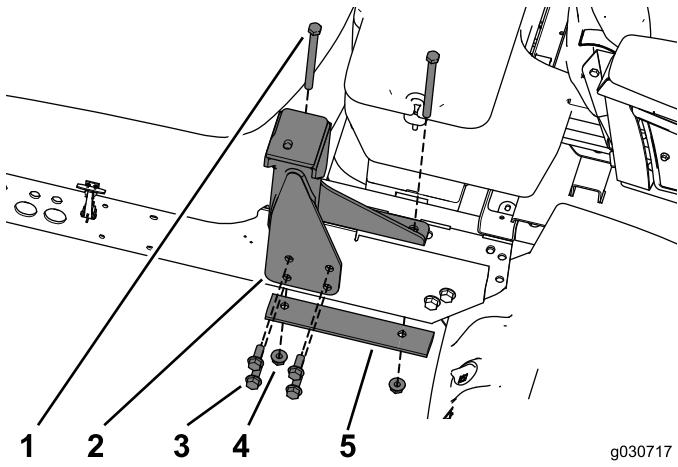

Figure 20
1. Use the hardware that you removed with the ROPS to secure the rear mount to the frame (Figure 20).